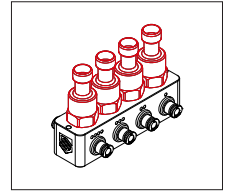

Fig. 3: Pressure sensor block
2. Installation in the optional pressure sensor block (Fig. 3)